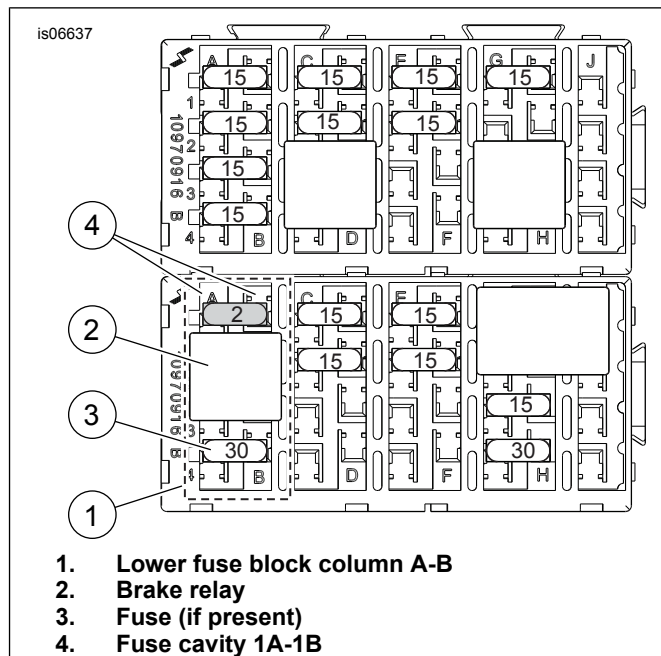

Figure 15. P&A IGN Fuse Cavity (2008 and Later Touring Models)
3. See Figure 15. Locate fuse cavity 1A-1B (marked "P&A IGN", "2A MAX" on the cover) on the lower fuse block (1). Remove the brake relay (2) and fuse (3, if present) currently installed in column A-B, noting their location.